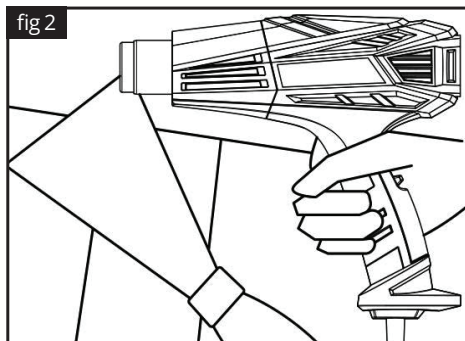

fig 2
- Soften the paint using the hot air gun and remove evenly using a spatula (fig 2). Some paint cannot be softened such as cement dope, lacker and mineral paint, do not clear